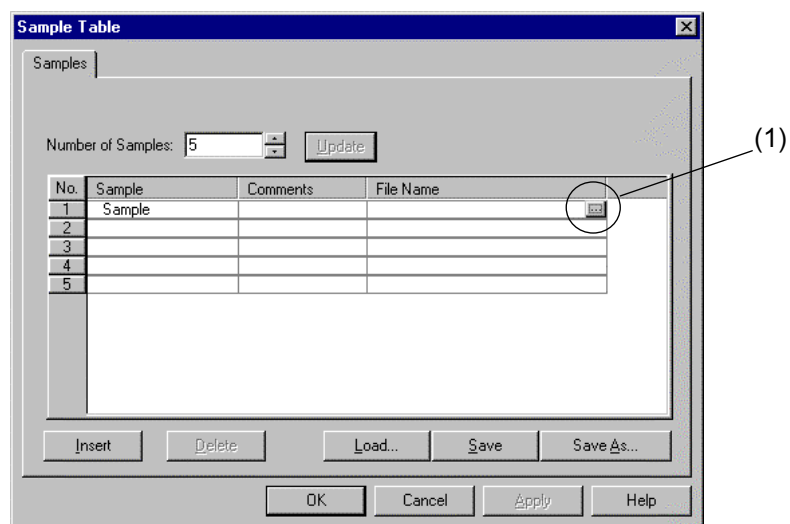

Fig. 1-40
File name needs to be set before measurement. Select the Sample Table (S) command in the Edit menu (E), and the dialog box shown in Fig. 1-40 will open. Input a sample name and comment. Then, bring the cursor to the file name column and click the button at (1).